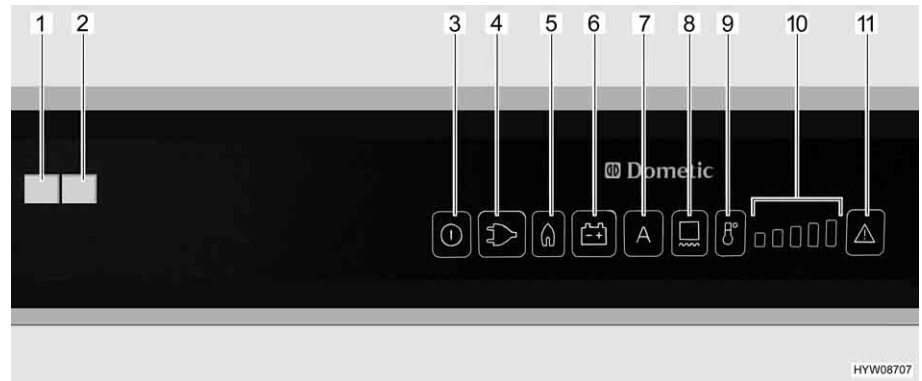

Fig. 217 Operating controls for the refrigerator (Dometic RMD)
If the "AES" operating mode is set, the 230 V supply is **not** connected and the vehicle engine is **switched off**, the AES selects the gas supply. When selecting gas operation the ignition fuse is opened automatically so gas can get into the burner. At the same time the electronic ignition is activated. If the gas flame is extinguished, e.g. by blast of wind, the ignition is activated immediately and re-ignites the gas. If there is a fault in gas operation, the illuminated buttons "Gas" (Fig. 217,5) and "Fault" (Fig. 217,11) flash. The "Fault" indicator lamp (Fig. 217,1) lights up and an alarm sounds for 20 seconds.
When turned on the first time the refrigerator automatically selects the middle thermostat position. This position can be adjusted manually using the temperature range selection button (Fig. 217,9). The indicator lamps (Fig. 217,10) show the selected thermostat position. The refrigerating temperature for all three types of power is set with the temperature range selection button. It takes a few hours till the refrigerator reaches its normal operating temperature. When changing over the operating mode the thermostat setting will be maintained. The refrigerating temperature is retained regardless of the type of power being used.
- Switch on the frame heater for a 2 hour period: Push button (Fig. 217,8) once. One bar is lit up on the temperature range display (Fig. 217,10).
- Switch on the frame heater for a 5 hour period: Push button (Fig. 217,8) twice. Two bars are lit up on the temperature range display (Fig. 217,10).
- Setting frame heater for continuous operation: Push button (Fig. 217,8) three times. Three bars are lit up on the temperature range display (Fig. 217,10).
The temperature range display (Fig. 217,10) shows the operating time of the frame heater for several seconds.
High external temperatures and high humidity can cause drops of water to form on the metal frame of the freezer compartment. This is why the refrigerator is equipped with a frame heater for the freezer compartment. If the temperature and humidity are high, switch on the frame heater by pressing the button (Fig. 217,8). This prevents corrosion. If the frame heater is switched on, the illuminated button (Fig. 217,8) is lit.
- Press and hold the On/Off button (Fig. 217,3) for about 2 seconds. The refrigerator switches on and the previously set power type or "AES" is displayed.
- Use the temperature range selection button (Fig. 217,9) to set the refrigerating temperature. The indicator lamps (Fig. 217,10) show the selected thermostat position.
- Press and hold the On/Off button (Fig. 217,3) for about 2 seconds. The refrigerator switches off and no displays are lit.